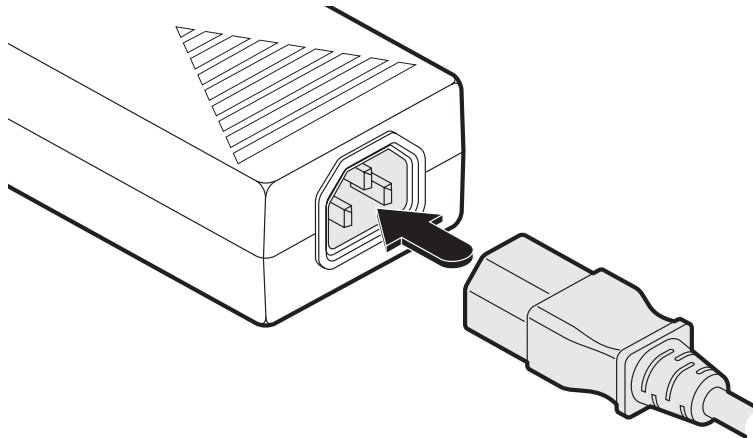

Figure 3-6. Attaching the IEC connector of the power lead to the adapter.
2. Connect the IEC connector of the supplied country-specific power cord to the socket of the power adapter. See Figure 3-6.